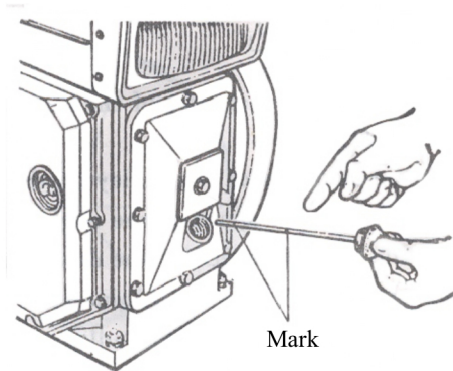

Fig.1
3. Adding lubricating oil : Take the oil indicating stick out of the crankcase. Use No.CC40 high speed diesel engine oil in summer, No.CC30 in winter. The quality of added oil is about 2.5kg, so that the oil level in crankcase will lie between the two marked lines on the dipstick.(Fig.1)